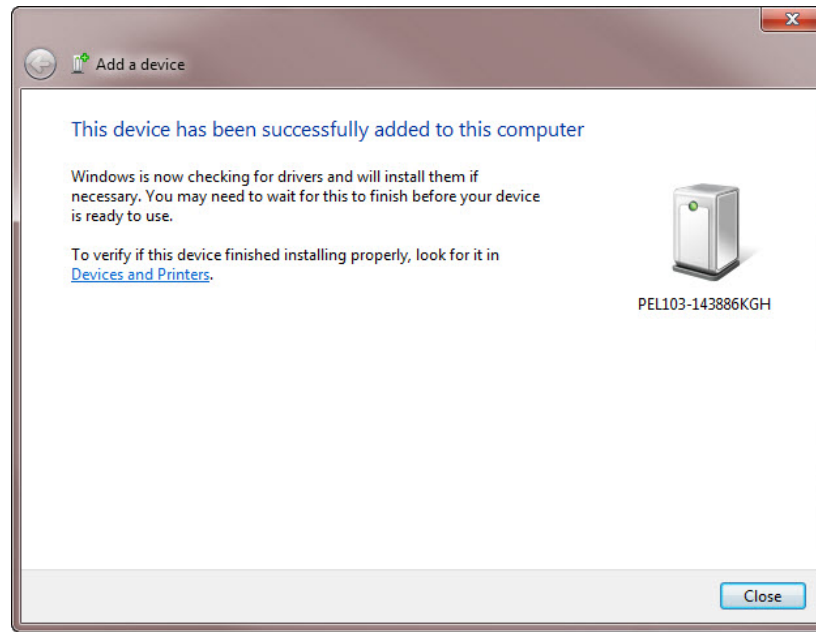

Figure 11
6. Once the instrument has been successfully added to the computer, a window similar to Figure 11 will be displayed. Select **“Close”**.